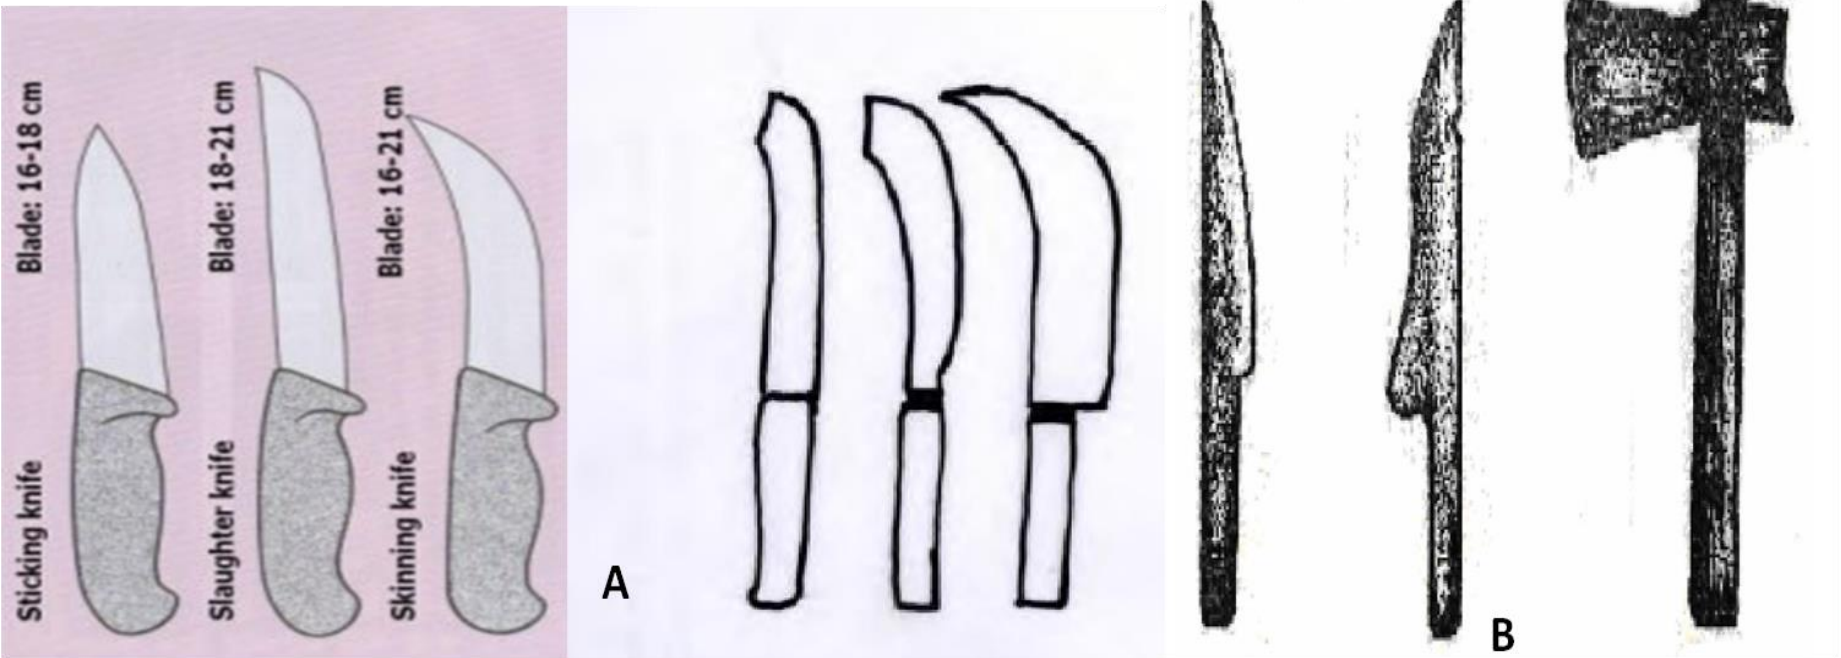

Figure 9:-. A) Proper ripping and flaying knives; B) improper knives used in flaying; Source: (Tekle, 2008).
- A sharp pointed knife with straight blade about 150 mm long (Fig 9) should be used for cutting in to hides and skins and inserting ripping lines. It may also be used for bleeding animals. and carry water, and a wheel barrow to transport materials.
- A blunt tipped knife with a curved blade of about 150 mm long (fig 9 A) used for cutting hides and skins off carcasses and fleshing.